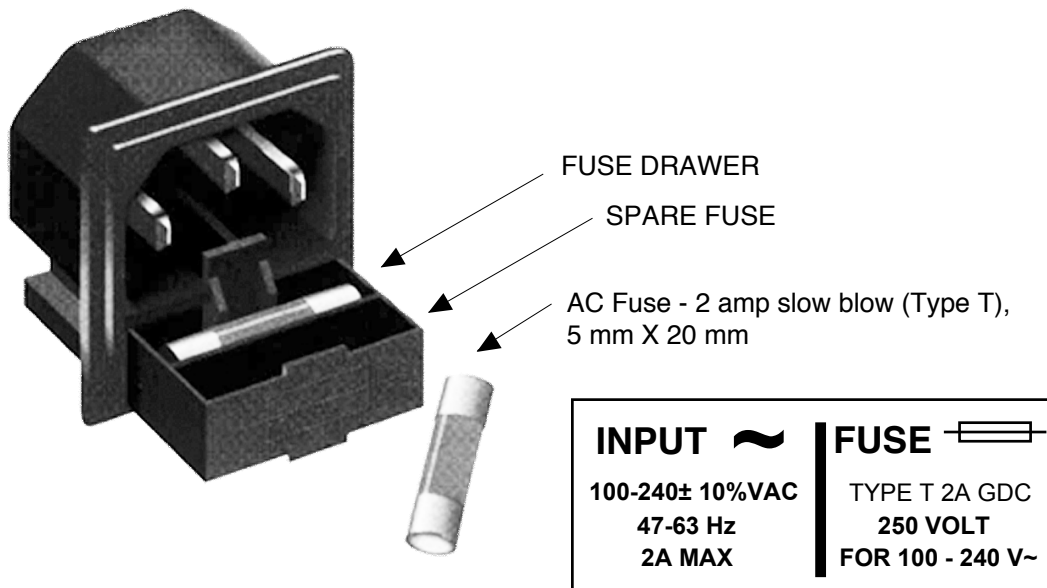

FIGURE 2.3 Fuse Location and Spare Fuse
8. **AC Fuse** - The fuse is a 5 mm X 20 mm, 2 amp slow blow (Type T) and is inserted in the far slot in the drawer below the AC input as shown in Figure 2.3. There is a spare fuse in the near slot. If a fuse continues to open, the power supply is most likely defective.